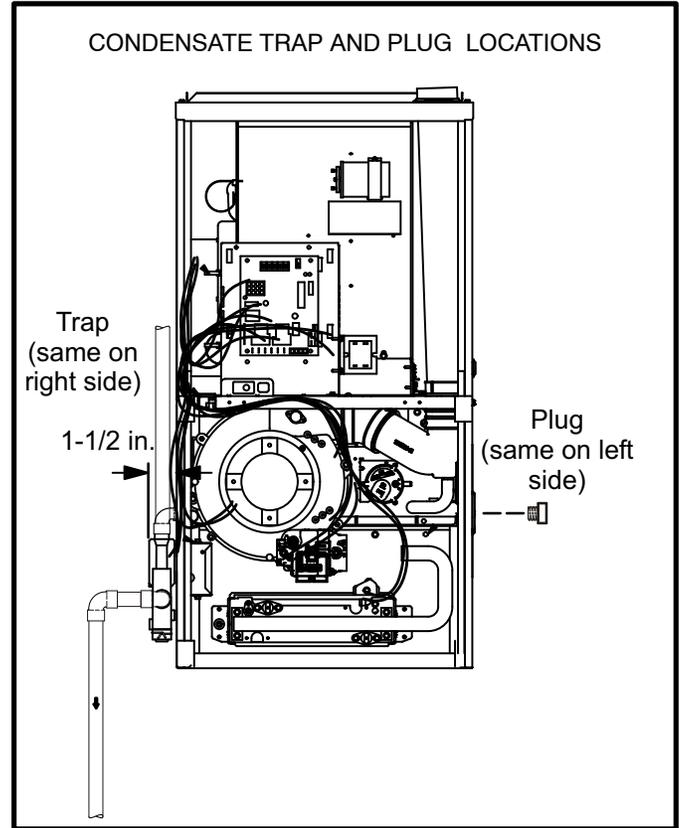

FIGURE 41
- 2 - Use a large flat head screw driver or a 1/2" drive socket extension and remove plug (figure 41) from the cold end header box at the appropriate location on the side of the unit. Install provided 3/4 NPT street elbow fitting into cold end header box. Use Teflon tape or appropriate pipe dope.
This unit is designed for either right- or left-side exit of condensate piping. Refer to figures 41 and 42 for condensate trap locations.